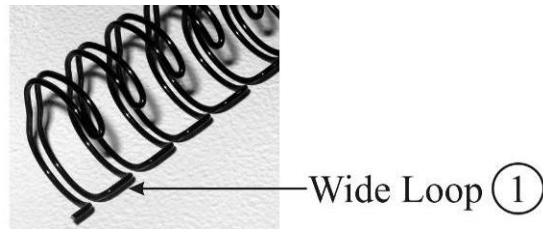

Fig. 6a
**STEP 6, Load Wire:** See Figure 6a.